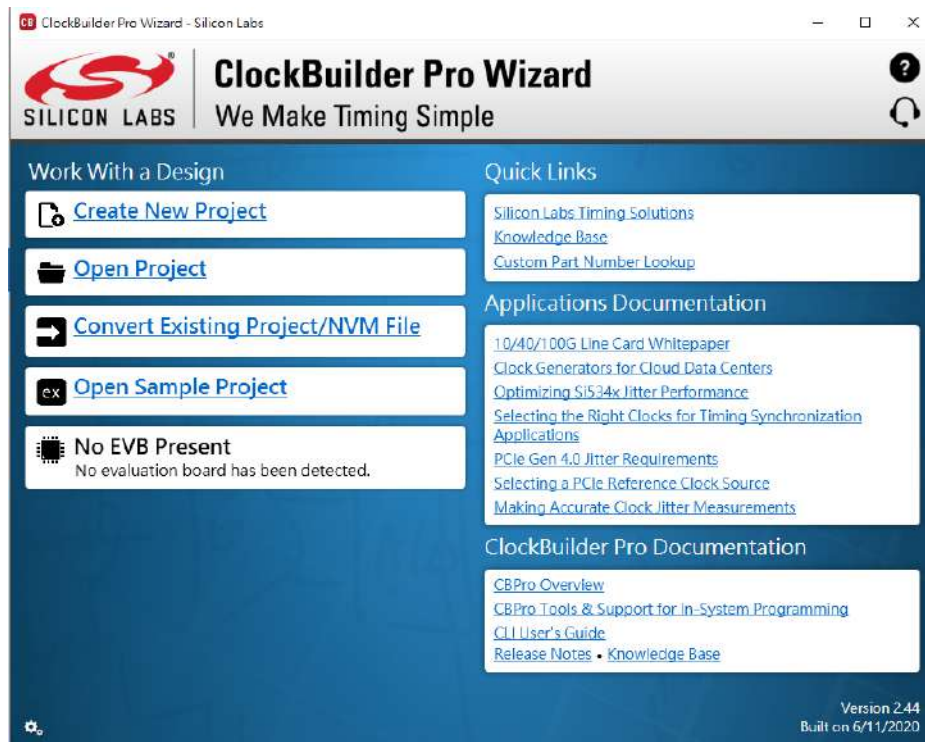

Figure 5-5 ClockBuilder Pro Wizard
- After the setting is completed, ClockBuilder Pro Wizard generates a Design Report(text), which contains users setting frequency corresponding register value (See Figure 5-5).